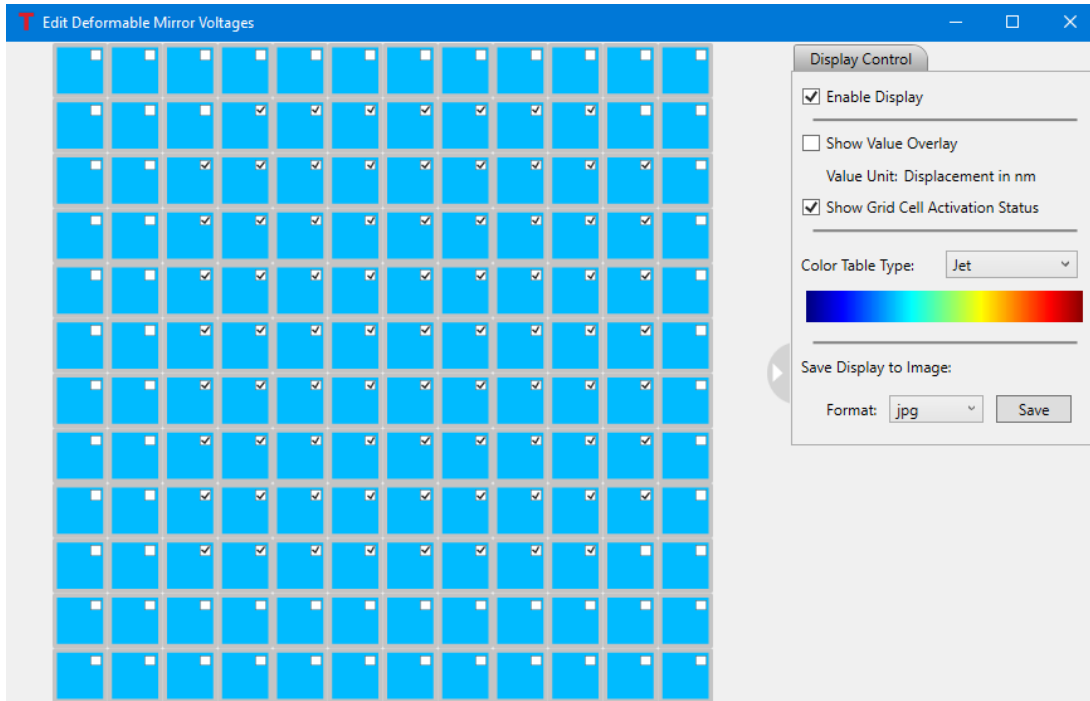

Figure 176 Calibrated DM with the Defined Effective Region (checked cells)
- 3) A sample calibrated Deformable Mirror is shown in Figure 176. The system sets the effective Wavefront region (checked cells) and excludes marginal points that introduce noise (unchecked cells). A cell can be manually toggled between noise and verified status by checking it.